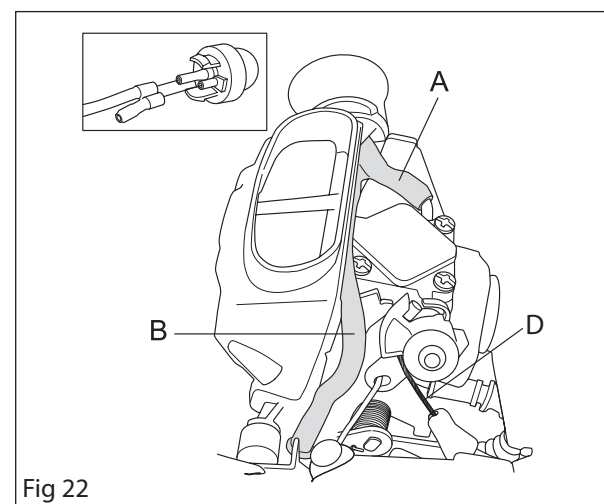

Fig 22
7. Attach the throttle cable (D). See figure 22.
8. Fasten the return hose (B) and secure it in its mountings on the air filter holder.
9. Attach the pressure hose (A) with the short hose on the short plastic plug on the fuel pump. See figure 22.